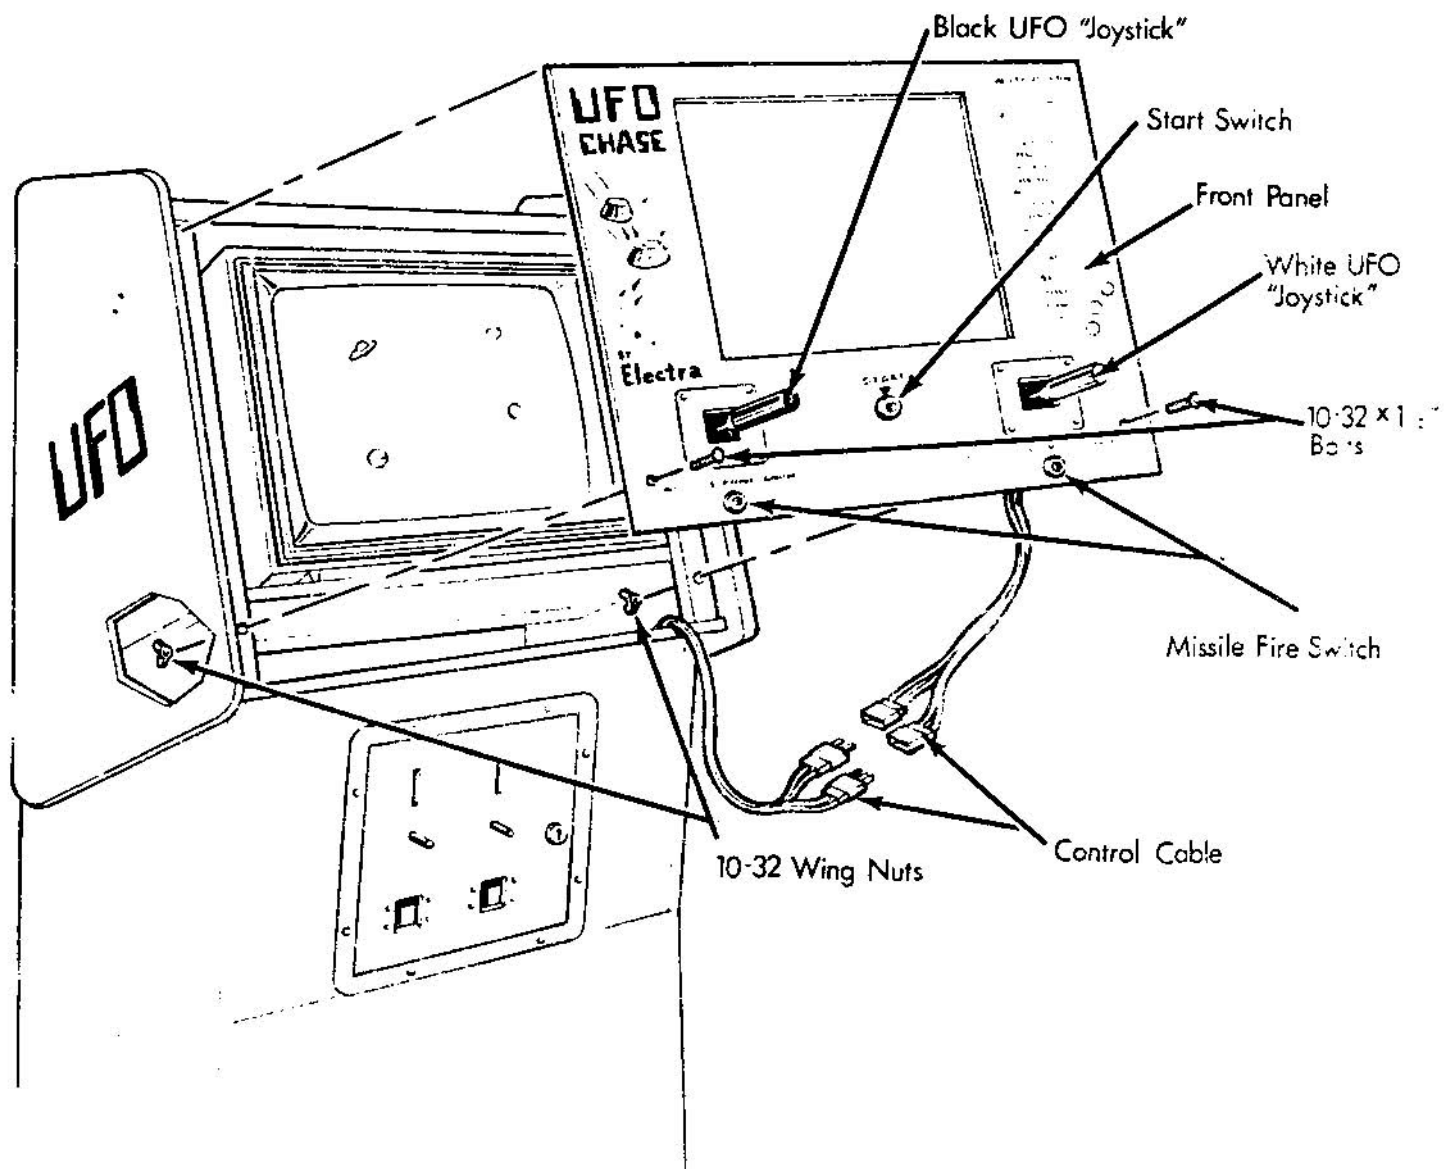

FIGURE 2
- . Unloosen and remove the two Wing Nuts which secure the Front Panel. (See Figure 2.)